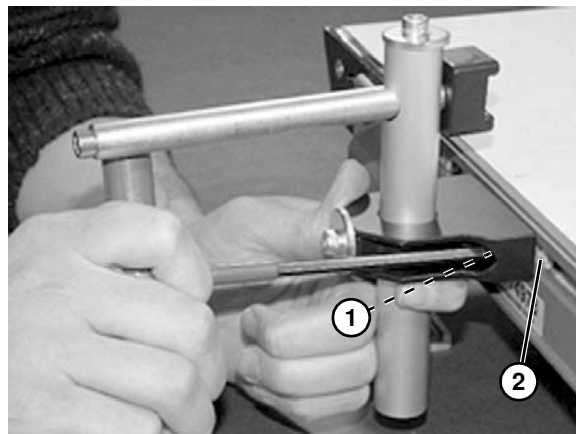

Figure 23
2. Tighten screws (**Figure 23, item 1**) making sure t-nut (**Figure 23, item 2**) rotates and engages inside of the t-slot.